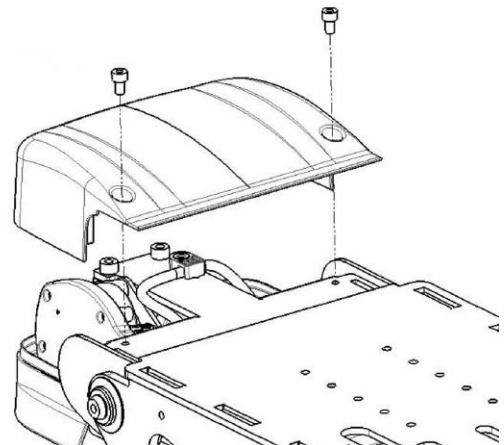

Fig. 1. Remove the rear cover from the seat tilt.
2. Remove the rear cover from the seat tilt. See fig. 1.